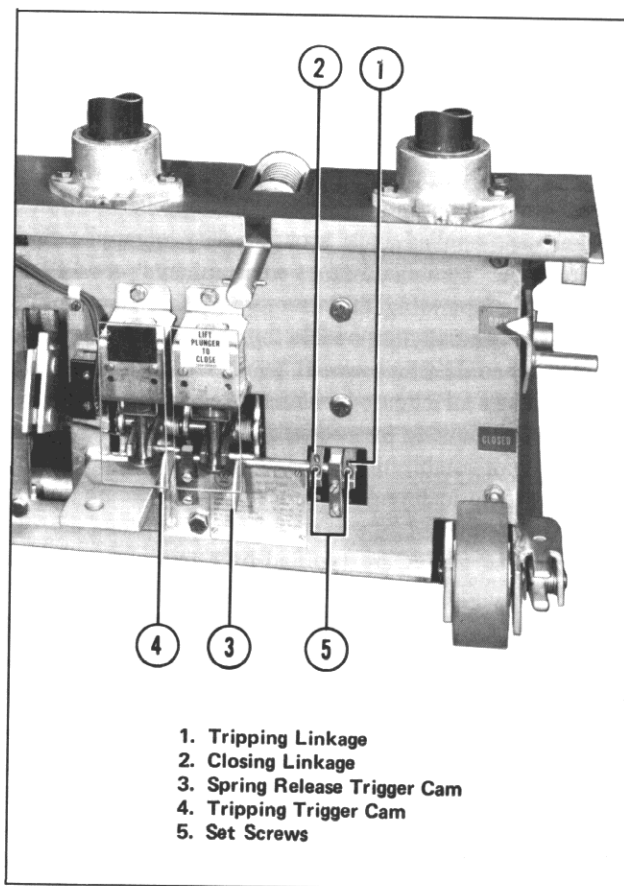

Fig. 37 Floor Tripper Adjustments
5. If breaker closes on  $1/2$  inch high surface or does not close on  $5/8$  inch high surface, reposition spring release trigger cam, Item 3, Fig. 37, by loosening the set screw, Item 5, Fig. 37, and moving the cam up or down as required.